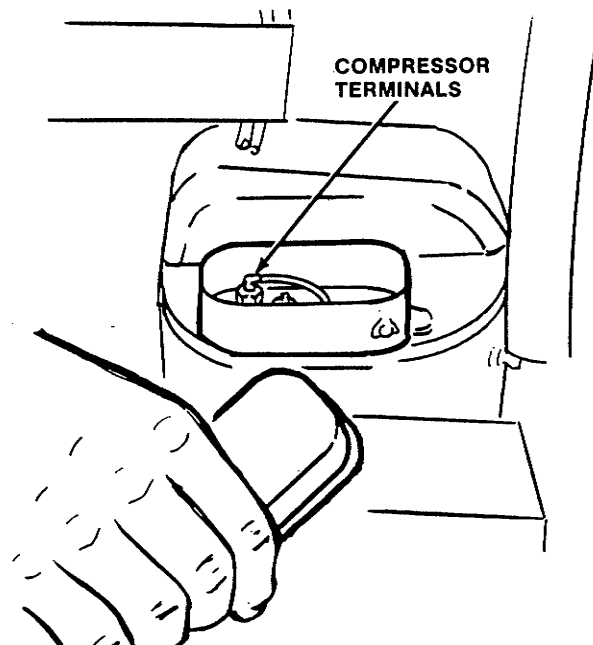

Figure 33. Compressor Connections
6. Remove wires C, R and S at compressor. Refer to Fig. 33 for compressor connections.